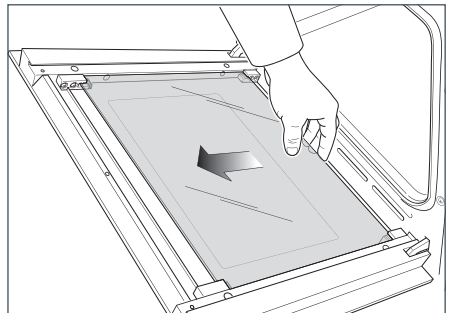

Fig.45b
- Gently unlock the middle pane of glass from the bottom clamps by moving it as in Fig. 45b.